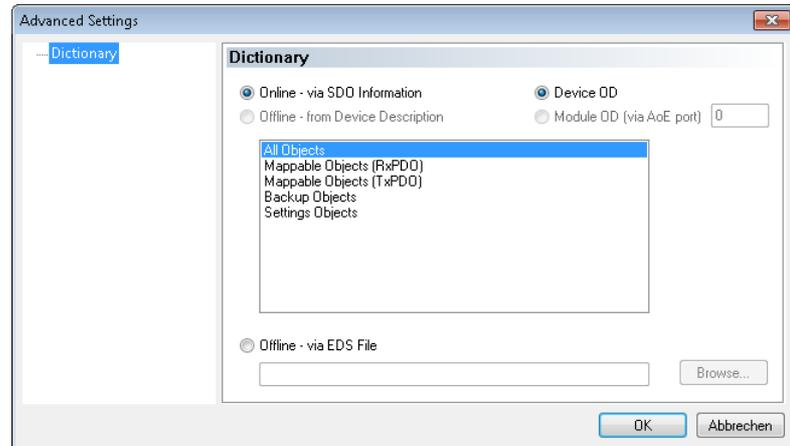

Fig. 6-28 Reading device information.
2. In the dialog mark **All Objects** and click on **OK** (Fig. 6-28).